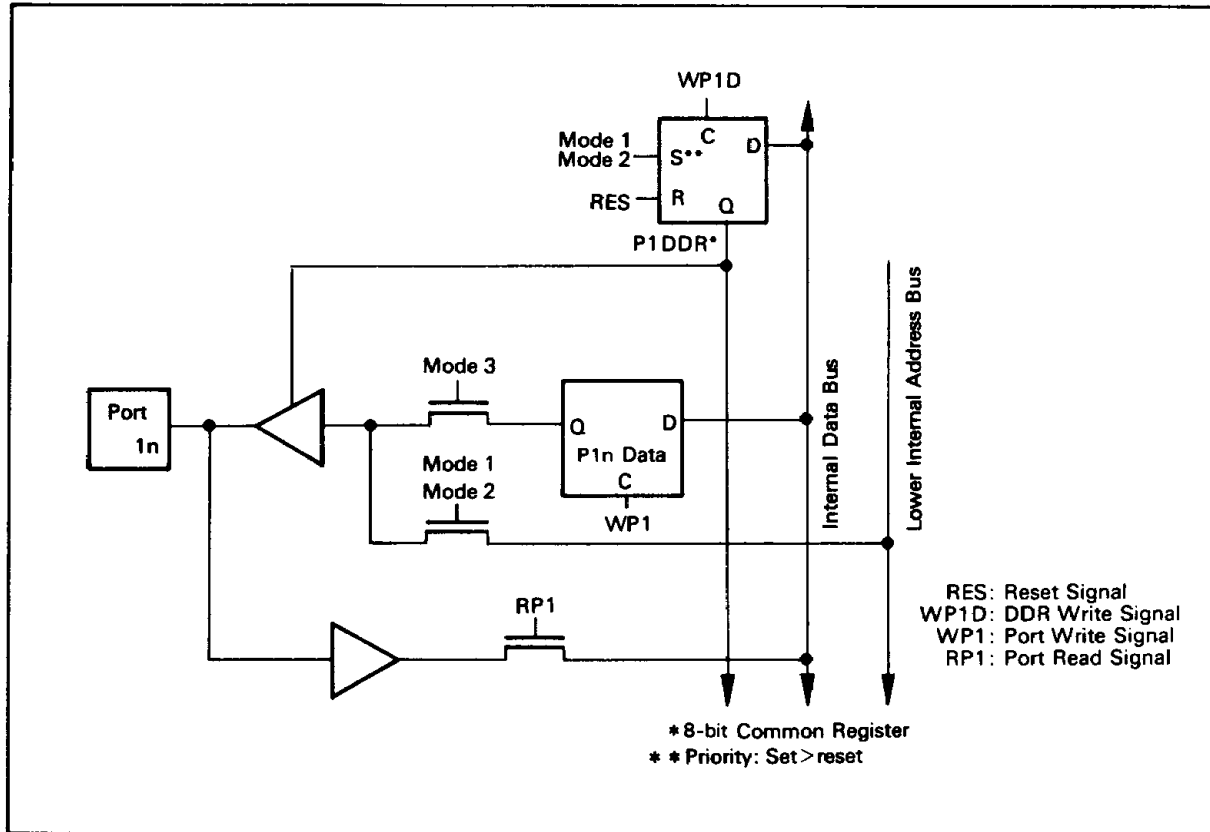
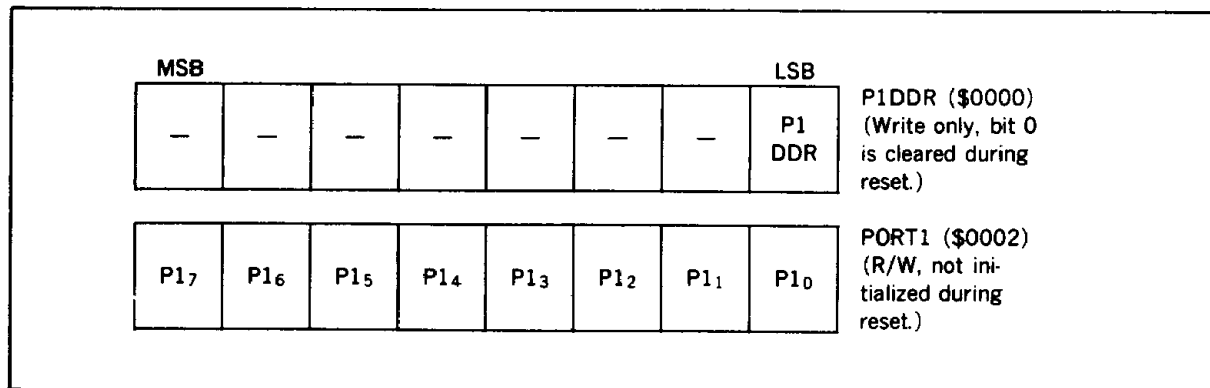

Figure 9. Port 1 Block Diagram
Figure 10. Port 1 Register and Data Direction Register
**Port 1** : Port 1 is an 8-bit I/O port (figure 9). The LSB of the DDR (\$0000) selects the data direction of the whole port (Figure 10). In the expanded modes (1 and 2) port 1 is the lower address bus (A7-A0). Port 1 can drive one TTL load and 90 pF capacitance.